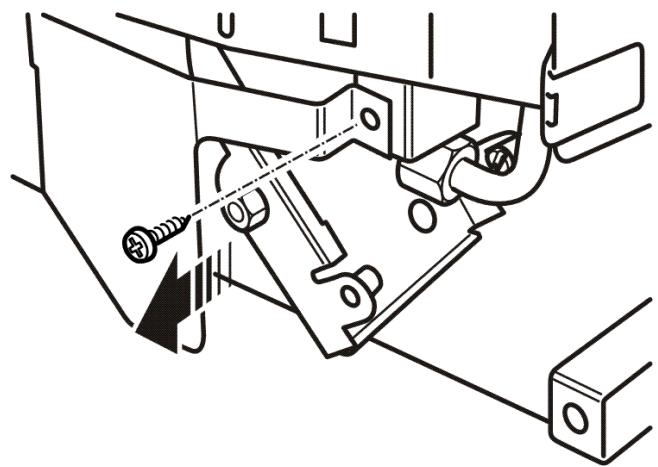

Figure 32. Microswitch cover removal
(See figures 32 & 33).
2. Detach the microswitch cover by removing one screw and pulling clear of the location lug (See figure 32).
(See figures 32, 33 & 34).